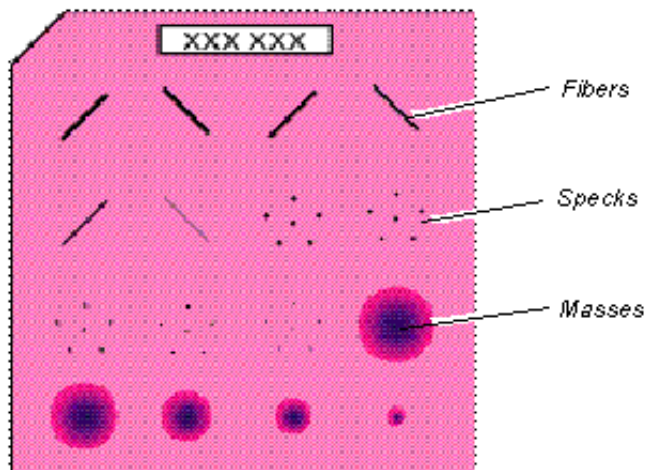

Figure 7 ACR (RMI 156) phantom
- a) Select object class (mass, speck group, fiber), see Figure 7.